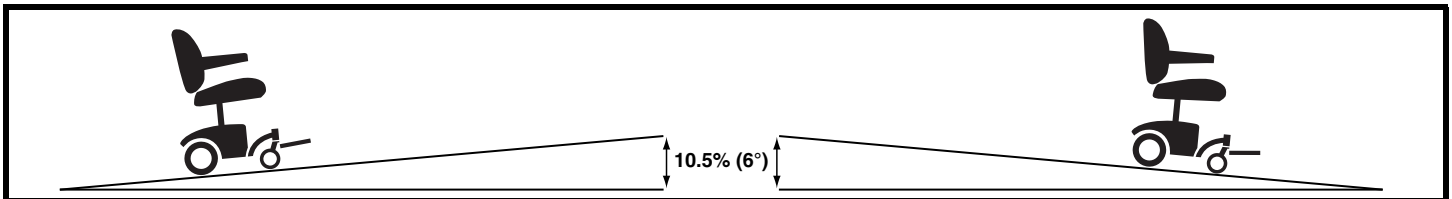

Figure 1. Maximum Recommended Safe Slope (Ascending and Descending)
**WARNING!** Even though your power chair is capable of climbing slopes greater than those illustrated in figure 1, do not, under any circumstances, exceed the incline guidelines or any other specifications presented in this manual. Doing so could cause instability in your power chair.
Pride recommends that the maximum slope of an incline you attempt to safely ascend or descend on your power chair does not exceed 10.5% (6°). See figure 1.